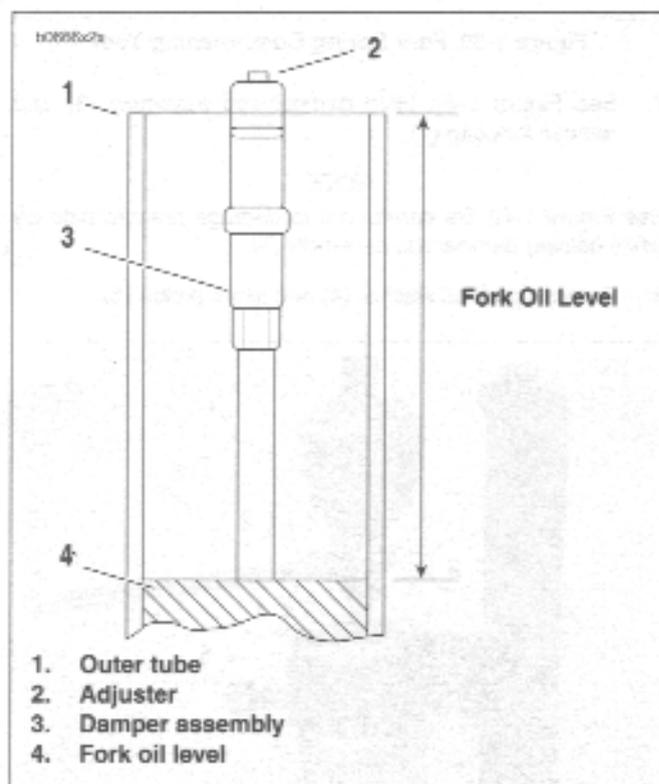

Figure 1-41. Measuring Fork Oil Level
- See Figure 1-41. Adjust fork oil level with FRONT FORK OIL LEVEL GAUGE (Part No. B-59000A) so that it is 4.6 in. (118 mm) from the top of the fork tube.